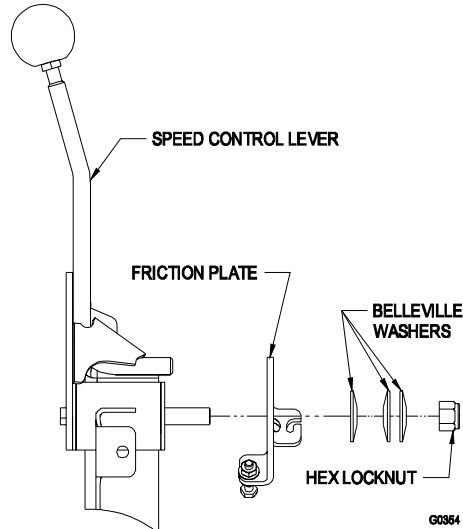

FIGURE 14
- b) Tension in speed control lever can be adjusted by adjusting the tightness of the lever pivot bolt, which is located under the seat near the speed control lever. See Figure 14.